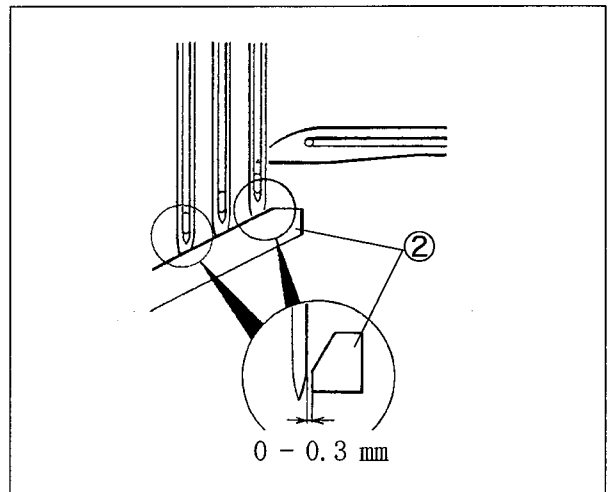

Fig. 61
- (4) Loosen the screws ① and ③. Adjust the clearance between the needle guard(front) ② and the left or right needle to 0 - 0.3 mm respectively. (Fig. 61)